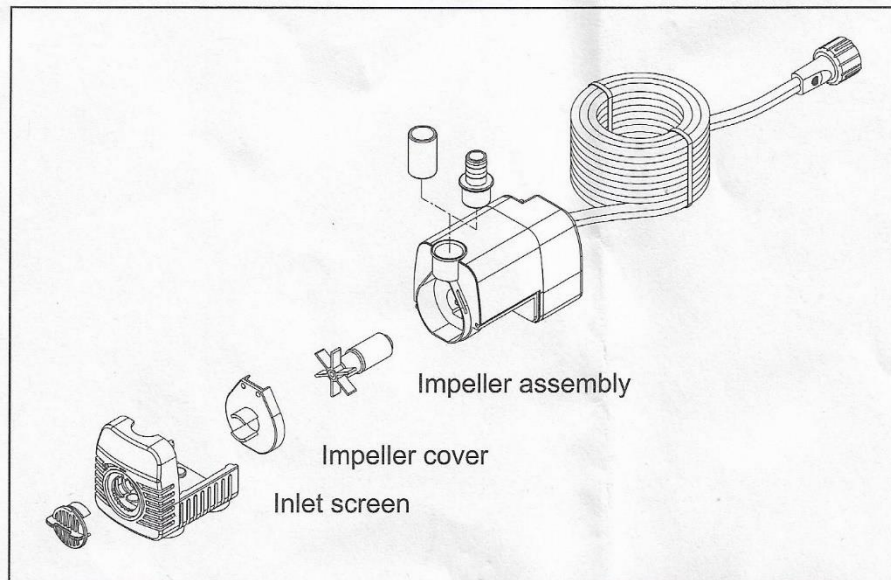

Fig.5
- Remove the inlet screen and/or pump cover, impeller housing to expose the impeller. Turn the impeller to ensure that it is not broken or jammed. See Fig. 5.